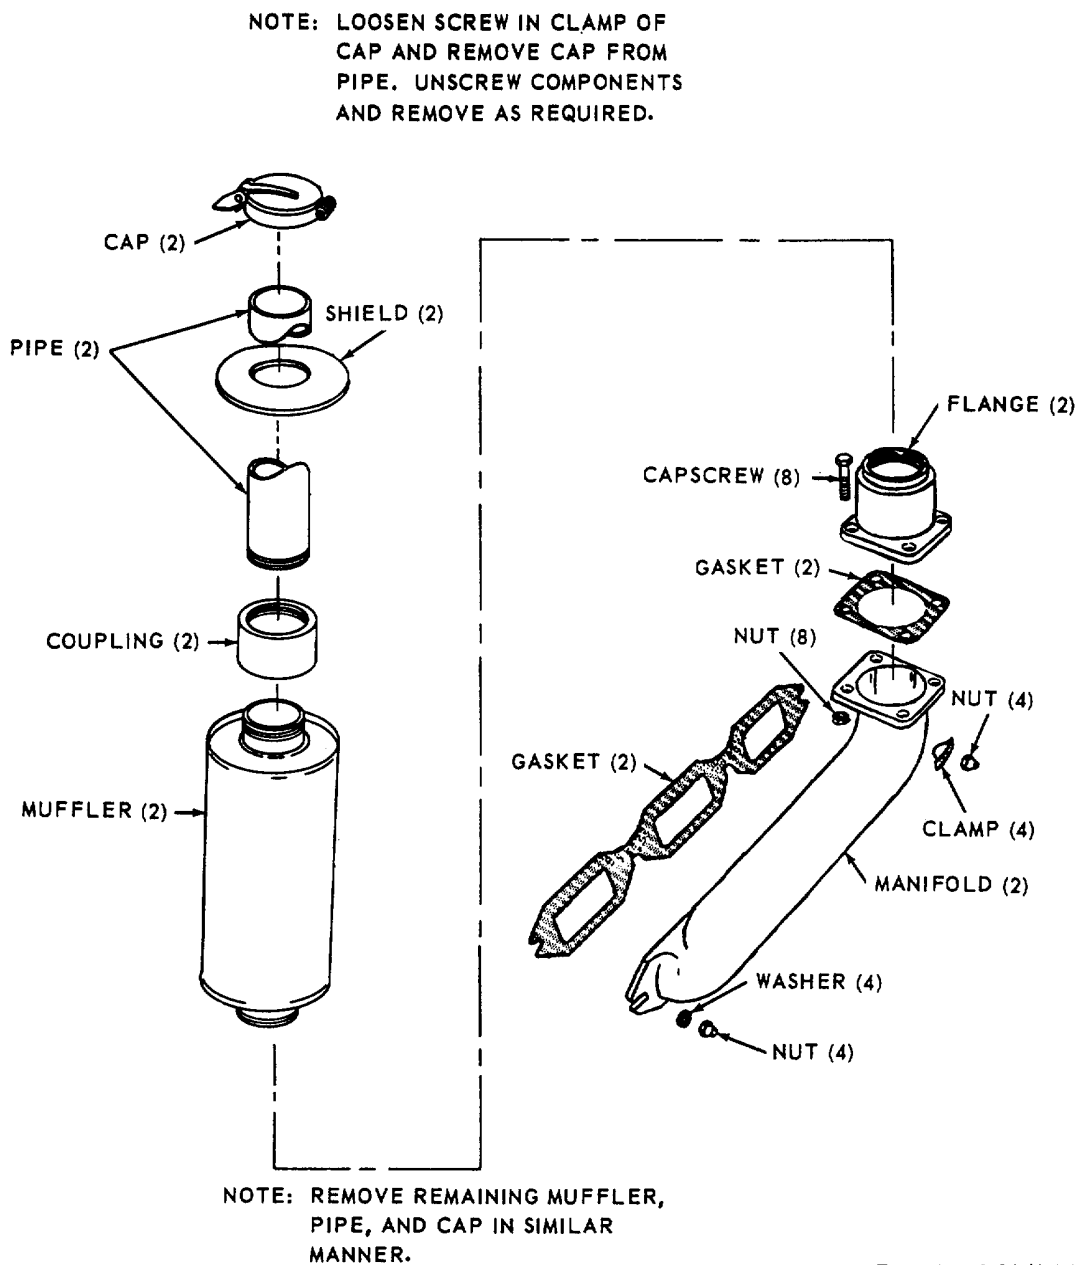

Figure 3-84. Exhaust pipe, muffler, and cap, removal and installation (engine model 687C-18-ES).
a. *Engine Model 687C-18-ES.* Refer to figure 3-84 and remove cap, and unscrew exhaust pipe from coupling. Install in reverse order.
Refer to figure 3-84, unscrew coupling and muffler to remove. Install in reverse order.
- (1) Remove exhaust pipe and cap (para 3-97).
- (2) Remove muffler (para 3-98).
- (3) Refer to figure 3-84, remove four nuts, capscrews, flange, and gasket.
- (4) Remove four nuts and clamp, four nuts and